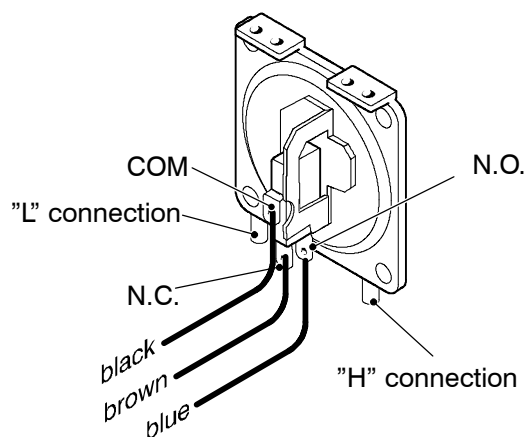
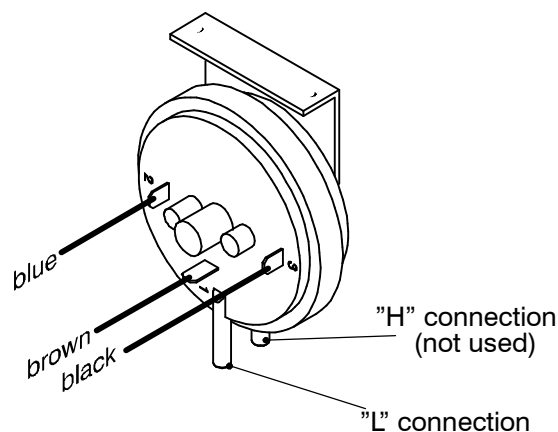
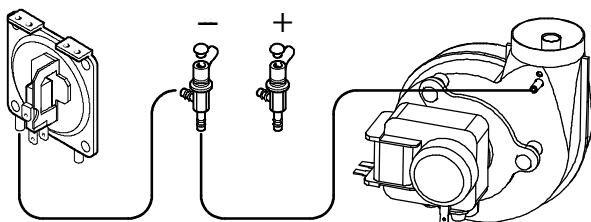

Fig. 67a
Fig. 67b
Fig. 71
- 2 Disconnect the wires and check the electrical resistance between the connections of the Air pressure switch. Refer to the Fig. 67a or b in accordance with the type of air pressure switch used.
Warning: to correctly connect the venturi device to the Air pressure switch, refer to Fig. 71.
Warning: to correctly connect the Air pressure switch, refer to Fig. 71 and Fig. 67a or Fig. 67b for the correct wiring.